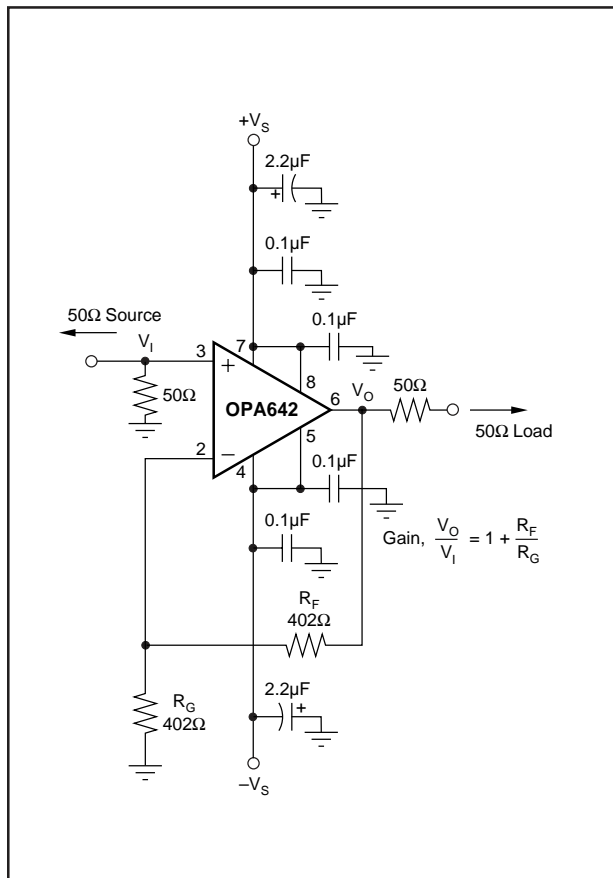
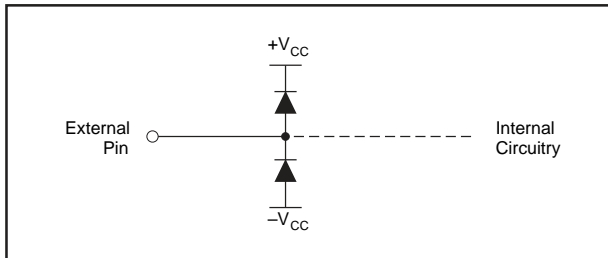

FIGURE 1. Gain of +2, High Frequency Application and Characterization Circuit [P or U Package].
FIGURE 9. Internal ESD Protection.
The OPA642's combination of speed and dynamic range is easily achieved in a wide variety of application circuits, providing that simple principles of good design practice are observed. For example, good power supply decoupling, as shown in Figure 1, is essential to achieve the lowest possible harmonic distortion and smooth frequency response. Proper PC board layout and careful component selection will maximize the performance of the OPA642 in all applications, as discussed in the remaining sections of this data sheet.
Figure 1 shows the gain of +2 configuration used as the basis for most of the Typical Performance Curves. Most of the curves were characterized using signal sources with 50Ω driving impedance, and with measurement equipment presenting 50Ω shunt load impedance. In Figure 1, the 50Ω shunt resistor at the  $V_I$  terminal matches the source impedance of the test generator, while the 50Ω series resistor at the  $V_O$  terminal provides a matching resistor for the measurement equipment load. Generally, data sheet specifications refer to the voltage swing at the output pin ( $V_O$  in Figure 1). The 100Ω load from the series and shunt matching resistances, combined with the 804Ω total feedback network load, presents the OPA642 with an effective load of approximately 90Ω.
To achieve the lowest possible distortion in the 8-pin SO-8 or DIP package, the addition of 0.1μF decoupling capacitors on pins 5 and 8 is required. These are shown in Figure 1. Although pins 5 and 8 are internally connected to pins 4 and 7 respectively (the standard supply pins for 8-pin op amps), the additional capacitors help to decouple the package lead inductances and improve second harmonic suppression at 5MHz by approximately 4dB. The much shorter bond wires and supply leads of the SOT23-5 package give the best distortion performance while requiring only two power supply connections.
is typically set up for a voltage gain of +2, compensating for the 6dB attenuation of the voltage divider formed by the series and shunt 75Ω resistors at either end of the cable. The circuit of Figure 1 applies to this requirement if all references to 50Ω resistors are replaced by 75Ω values. Often, the amplifier gain is further increased to 2.2, which recovers the additional DC loss of a typical long cable run. This change would require the gain resistor ( $R_G$ ) in Figure 1 to be reduced from 402Ω to 335Ω. In either case, both the gain flatness and the differential gain/phase performance of the OPA642 will provide exceptional results in video distribution applications. Differential Gain and Phase measure the change in overall small-signal gain and phase for the color subcarrier frequency (3.58MHz in NTSC systems) vs changes in the large-signal output level (which represents luminance information in a composite video signal). The OPA642, with the typical 150Ω load of a single matched video cable, shows less than 0.01%/0.01° differential gain/phase errors over the standard luminance range for a positive video (negative sync) signal. Similar performance would be observed for negative video signals. In practice, similar performance is achieved even with two video loads due to the linear high-frequency output impedance of the OPA642.
A good rule of thumb is to target the parallel combination of  $R_F$  and  $R_G$  (Figure 1) to be less than about 200Ω. The combined impedance  $R_F \parallel R_G$  interacts with the inverting input capacitance, placing an additional pole in the feedback network and thus a zero in the forward response. Assuming a 2pF total parasitic on the inverting node, holding  $R_F \parallel R_G < 200\Omega$  will keep this pole above 400MHz. By itself, this constraint implies that the feedback resistor  $R_F$  can increase to several kΩ at high gains. This is acceptable as long as the pole formed by  $R_F$  and any parasitic capacitance appearing in parallel is kept out of the frequency range of interest.
configuration this is sum of  $R_F + R_G$ , while in the inverting configuration this is just  $R_F$  (Figure 1). Increasing output voltage swing increases harmonic distortion directly. A 6dB increase in output swing will generally increase the second harmonic 12dB and the third harmonic 18dB. Increasing the signal gain will also increase the second harmonic distortion. Again a 6dB increase in gain will increase the second and third harmonic by 6dB even with a constant output power and frequency. And finally, the distortion increases as the fundamental frequency increases due to the rolloff in the loop gain with frequency. Conversely, the distortion will improve going to lower frequencies down to the dominant open-loop pole at approximately 3kHz. Starting from the -90dBc second harmonic for 2Vp-p into 500Ω,  $G = +2$  distortion at 1MHz (from the Typical Performance Curves), the second harmonic distortion at 20kHz should be approximately  $-90\text{dB} - 20\log(1\text{MHz}/20\text{kHz}) = -124\text{dBc}$ .
Evaluating these two equations for the OPA642 circuit shown in Figure 1 will give a total output spot noise voltage of  $6.7\text{nV}/\sqrt{\text{Hz}}$  and an equivalent input spot noise voltage of  $3.35\text{nV}/\sqrt{\text{Hz}}$ .
Narrowband communications systems are more commonly concerned with the noise figure for the amplifier. The total input referred voltage noise expression (Eq. 2), may be used to calculate the noise figure. Equation 3 shows this noise figure expression using the  $E_N$  of Eq. 2 for the non-inverting configuration where the input terminating resistor  $R_T$  has been set to match the source impedance (as shown in Figure 1).
Evaluating Equation 3 for the circuit of Figure 1 gives a Noise Figure = 17.6dB. Input transformer coupling can be used to reduce this noise figure. A broadband pulse transformer can provide both a noiseless voltage gain and a more optimum source impedance to minimize the noise figure. Figure 7 shows an example built from the circuit of Figure 1, in which the transformer turns ratio has been set to the
The OPA642 can provide excellent DC signal accuracy due to its high open-loop gain, high common-mode rejection, high power supply rejection, and low input offset voltage and bias current offset errors. The high grade (B) version of any package type provides less than 1mV input offset voltage. To take full advantage of this low input offset voltage, a careful attention to input bias current cancellation is also required. The high speed input stage for the OPA642 has a relatively high input bias current (25μA typ into the pins) but with a very close match between the two input currents—typically 100nA input offset current. The total output offset voltage may be considerably reduced by matching the source impedances looking out of the two inputs. For example, one way to add bias current cancellation to the circuit of Figure 1 would be to insert a 175Ω series resistor into the non-inverting input from the 50Ω terminating resistor. When the 50Ω source resistor is DC coupled, this will increase the source impedance for the non-inverting input bias current to 200Ω. Since this is now equal to the impedance looking out of the inverting input ( $R_F \parallel R_G$ ), the circuit will cancel the gains for the bias currents to the output leaving only the offset current times the feedback resistor as a residual DC error term at the output. Using a 402Ω feedback resistor, this output error will now be less than  $3\mu\text{A} \cdot 402\Omega = 1.2\text{mV}$ .
As a worst case example, compute the maximum  $T_J$  using an OPA642N (SOT23-5 package) in the circuit of Figure 1 operating at the maximum specified ambient temperature of +85°C.  $P_D = 10V \cdot 26mA + 5^2 / (4 \cdot (100\Omega \parallel 804\Omega)) = 330mW$ . Maximum  $T_J = +85^\circ C + 0.33W \cdot 150^\circ C/W = 135^\circ C$ .
The OPA642 is built using a very high speed complementary bipolar process. The internal junction breakdown voltages are relatively low due to these very small geometry devices. These breakdowns are reflected in the Absolute Maximum Rating table. All device pins are protected with internal ESD protection diodes to the power supplies as shown in Figure 9.
High input overdrive signals can also cause significant differential voltage between the + and - inputs. Where this voltage can exceed the maximum rated voltage of  $\pm 1.2V$ , external Schottky protection diodes should be added across the two inputs. Again, the capacitance added by these diodes can degrade the noise and AC performance and should be used only where necessary. Figure 9 shows a fully featured input protection circuit for the OPA642. This is the circuit of Figure 1 with additional limiting resistors into the inputs and Schottky clamp diodes across the inputs. These resistor values have been selected to limit the degradation in noise and frequency response, achieve DC bias current cancellation, and limit the current that will flow under overdrive conditions.